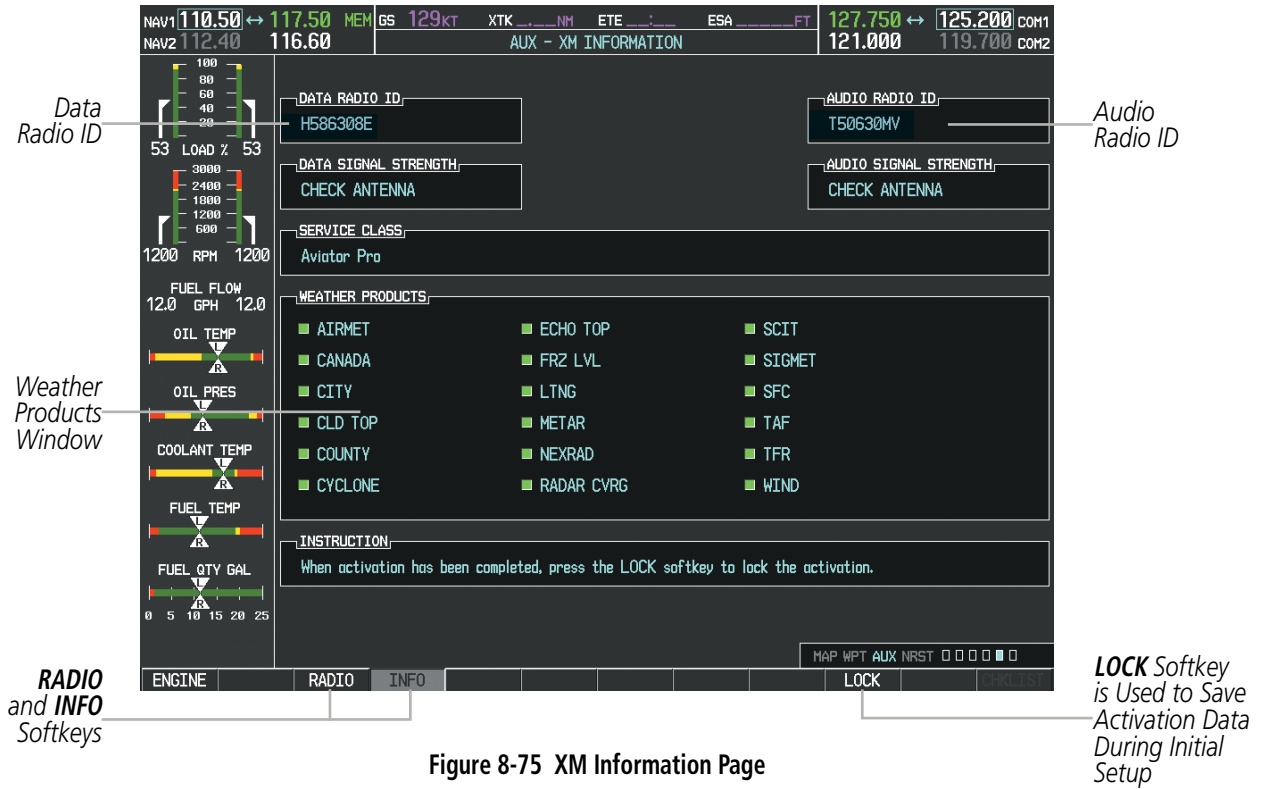

Figure 8-75 XM Information Page
- On the XM Information Page on the MFD (Figure 8-75)